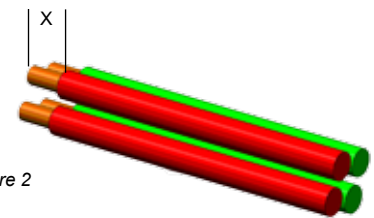

Figure 2
Table 1 (See figure 2)
- Keep all contacts parallel to each other while crimping. (See figure 2)